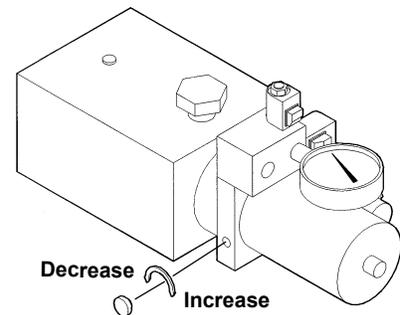

FIGURE 2
7. With Platform on the ground, remove the pressure hose and fitting from the Pump and replace it with a 0-3000 PSI Pressure Gauge. Hold the switch in the "UP" position. Adjust the Relief Valve on the side of the Pump until the gauge shows 2800 to 3000 PSI . **(See Fig. 2)**